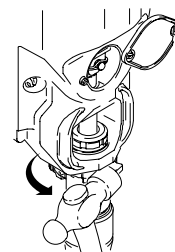

Fig. 15 9576A
6. Fig. 15. Screw jam nut (12) up onto pump until nut stops. Tighten jam nut by hand, then tap 1/8 to 1/4 turn with a 20 oz (maximum) hammer to approximately 75 \square 5 ft-lb (102 N·m).